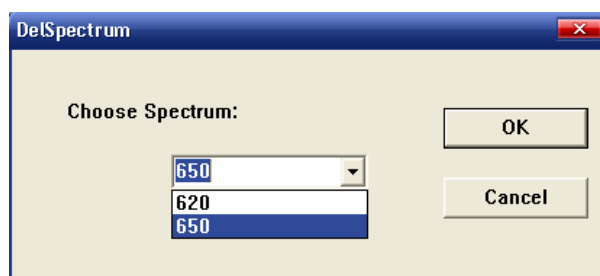

Figure 6-2. Dialog box for deleting a spectrum band
c. Click the button **Del Spectrum**, choose the spectrum band that we want to delete as Figure 6-2 indicates, and press Button **OK** to delete it. After this step the tissues parameters and the light sources parameters related to this spectrum would be deleted.